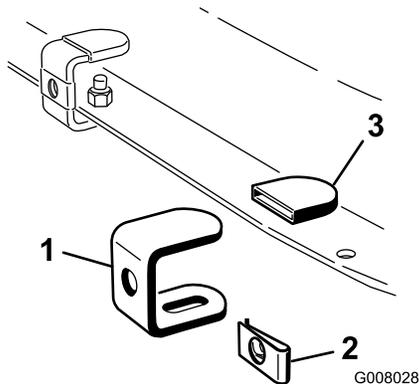

Figure 5
1. Assemble five brackets as shown in (Figure 5) using five sets of rubber caps, speed nuts and brackets.